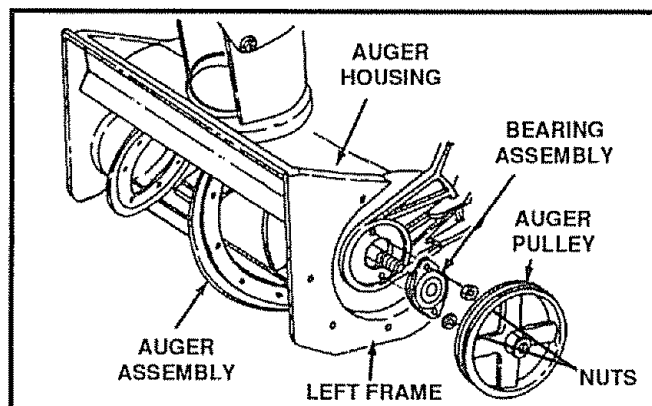

FIG. 13
- Remove the auger pulley (See Fig. 13) from the auger shaft (threads are left hand; turn clockwise to remove). Place a piece of wood (2x4) on the center paddle area to secure auger to keep from turning.
- Remove the bearing assembly from the left frame of snow thrower by removing the two nuts (See Fig. 13).